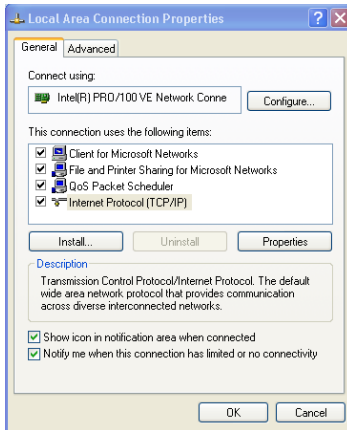

Figure 8: Local Area Connection Properties Window
5. Select the **Internet Protocol (TCP/IP)** and click the **Properties** Button (see Figure 8).